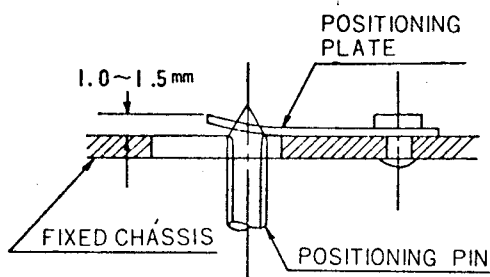

Fig. 20
1. Adjustment of Positioning Pin (Fig. 20)